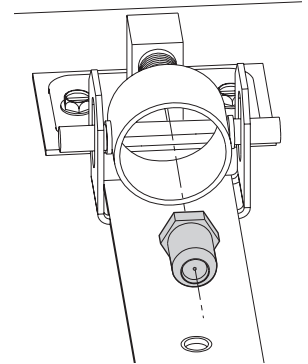

Figure 30. Replace the Burner injector.
9. **Change the Burner Injector.** See fig. 30. Using a 1/2" open end wrench or deep-well socket remove the burner orifice from its brass elbow housing and replace with the appropriate orifice supplied in the kit.